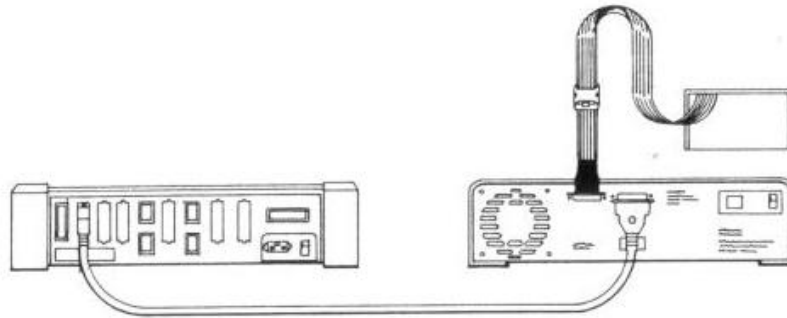

Figure 2-10. Hardware Configuration (Apple //e with Disk II)
14. Your hardware configuration so far should appear as illustrated in Figure 2-10. Now, skip to step 20.